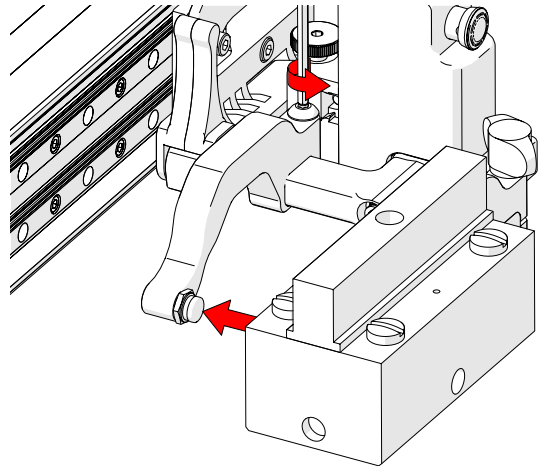

Fig. 75 - Adjust inner arm
4. Loosen the arm clamp screw (Fig. 75).